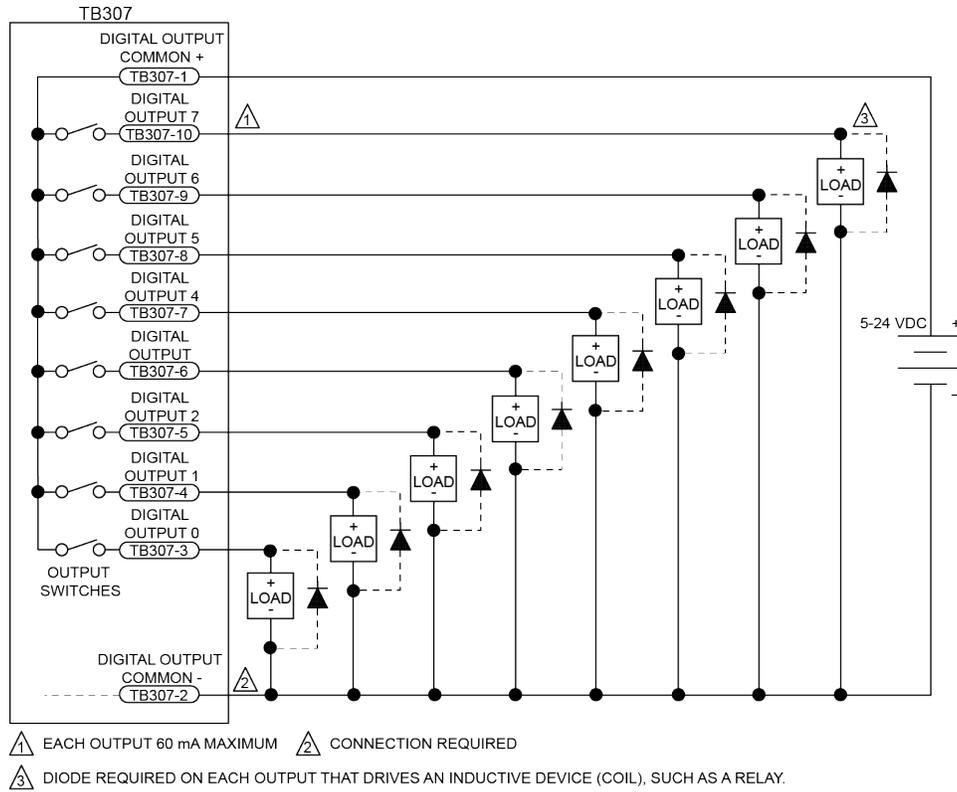
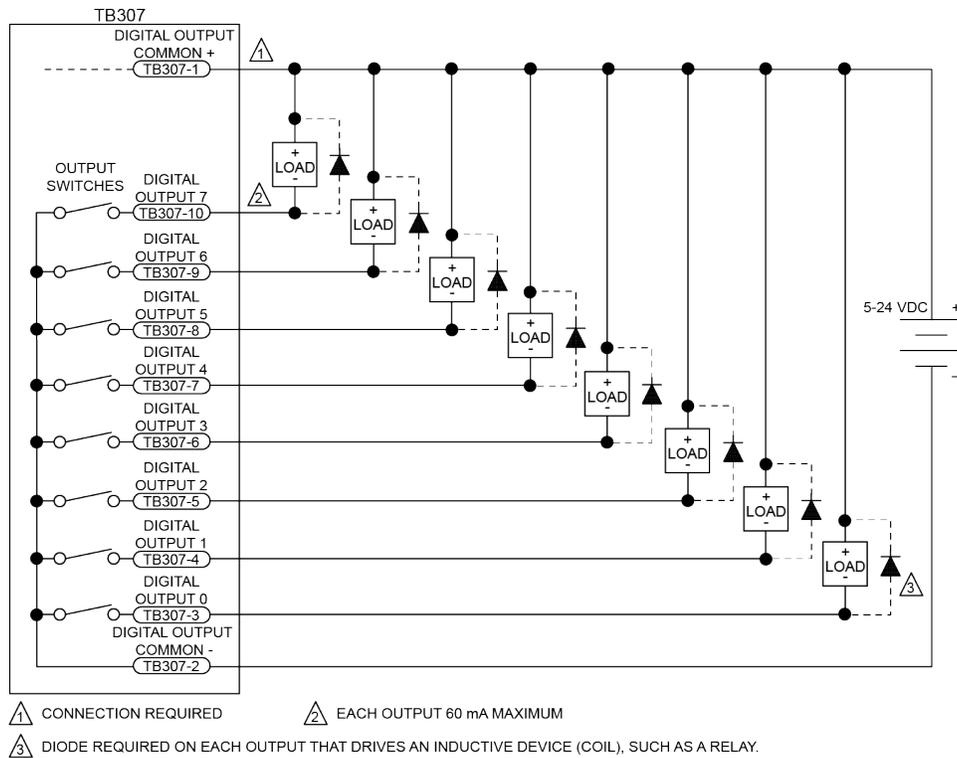

Figure 3-12: Digital Outputs Connected in Current Sourcing Mode
Figure 3-13: Digital Outputs Connected in Current Sinking Mode
The outputs are software-configurable and must be connected in either all sinking or all sourcing mode. Figure 3-12 and Figure 3-13 illustrate how to connect to an output in current sourcing and current sinking modes.
Suppression diodes must be installed on outputs driving relays or other inductive devices. This protects the outputs from damage caused by inductive spikes. Suppressor diodes, such as the 1N914, can be installed on all outputs to provide protection. It is important that the diode be installed correctly (normally reversed biased). Refer to Figure 3-13 for an example of a current sinking output with diode suppression and Figure 3-12 for an example of a current sourcing output with diode suppression.
NOTE: Power supply connections must always be made to both the Output Common Plus (OP) and Output Common Minus (OM) pins as shown in Figure 3-12 and Figure 3-13.